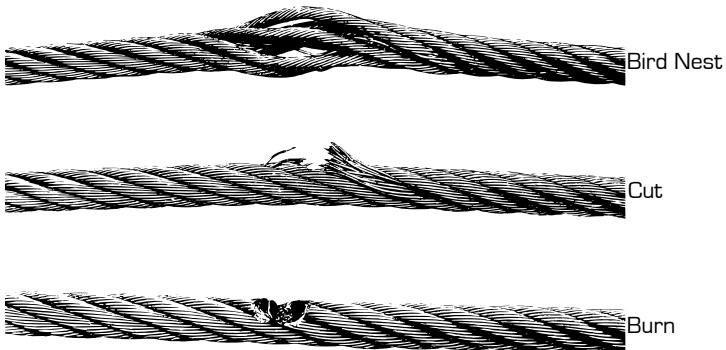

Figure 8
3. Before every use, the worker should extract all of the cable and examine it for defects that would affect its overall strength. These defects would include but are not limited to: " bird nests", cuts, nicks, fraying, abrasion, excessive wear or burns (Figure 8). Any damage to the cable can reduce the strength of the cable by 30%-80% and must be removed from service, mark "UNUSABLE", DO NOT USE until it has been inspected and recertified by an authorized Fall Safe service center.